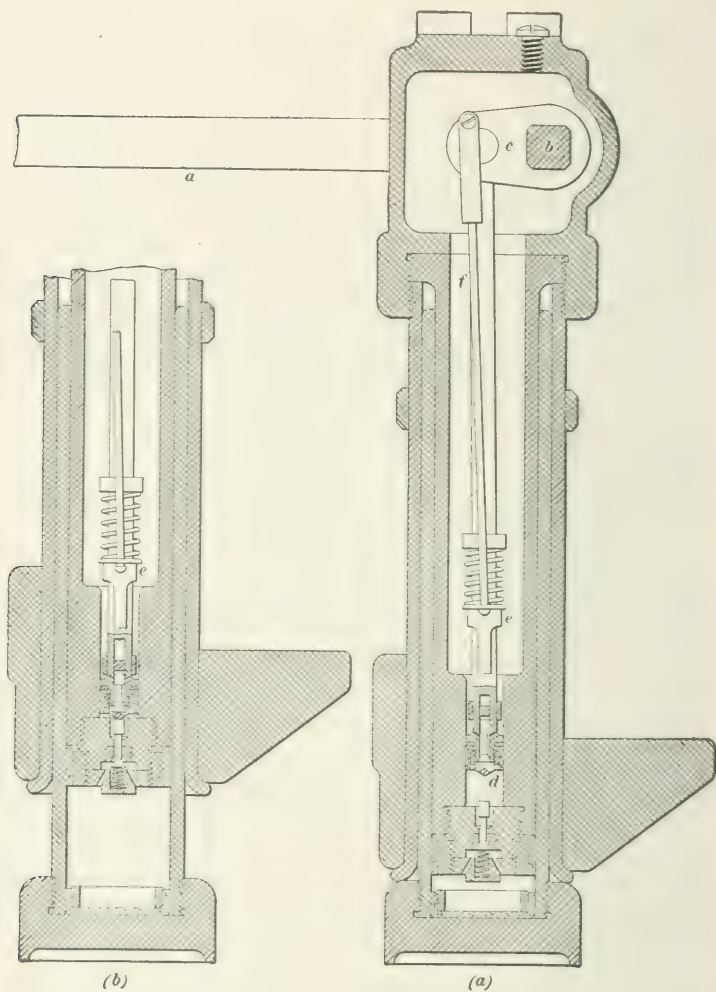

FIG. 10.
19. A Watson-Stillman hydraulic jack is shown in section in Fig. 10 (*a*). In this illustration, a is a lever that is depressed by the operator when he desires to raise the load. This lever freely fits a rectangular hole or socket in a shaft b that extends clear through the ram head. The shaft b carries the crank c to which the piston d is hinged. A small valve is placed in the center of the piston and serves to open or close communication between the water space above and below the piston. The lower end of the ram is fitted with a small check valve, which normally is held closed by the small spring shown beneath the valve. The inside of the jack is filled with a mixture of alcohol and water, about 2 parts of alcohol to 3 parts of water, which prevents the freezing of the liquid when the jack is used in cold weather. The operation is as follows:
The jack being clear down, as shown in Fig. 10 (*a*), it is placed under the load and the operator alternately depresses and raises the lever through its full range, the motion being limited by a projection on the under side of the lever. The slightest depression of the lever closes the valve in the piston. The downward movement of the piston continuing, the water between the bottom of the piston and the end of the ram is subjected to a pressure that opens the valve in the end of the ram. This allows the water under pressure to pass into the space beneath the ram. The pressure so transmitted to the lower end of the ram forces it upwards. The lever having been depressed to its limit is again raised. This raises the piston, causes the piston valve to open, and allows the water above the piston to flow beneath it. The pressure of the water below the ram promptly closes the ram valve as soon as the piston commences to move upwards. The operation may now be repeated as often as required.
In order to lower the ram, the lever is withdrawn from its socket and inserted again with the projection upwards. It can now be depressed far enough to cause the end of the piston to strike and open the ram-head valve, as shown in Fig. 10 (*b*), where the parts of the jack are shown in the relative positions occupied while lowering. But before the water in the bottom of the ram can escape to the top, the valve in the piston must also be opened. This is accomplished by a heavy spring that forces the sleeve *c* downwards. The lower end of the sleeve has a cotter working in a slot in the piston rod; the cotter bearing against the top of the valve forces the latter downwards. The sleeve is connected to the crank *c* by the so-called lowering wire *f*, in such a manner that the cotter will not strike the piston valve while the jack is raising the load. The ram will descend as long as the lever is kept hard down; it can be stopped instantly by raising the lever slightly.